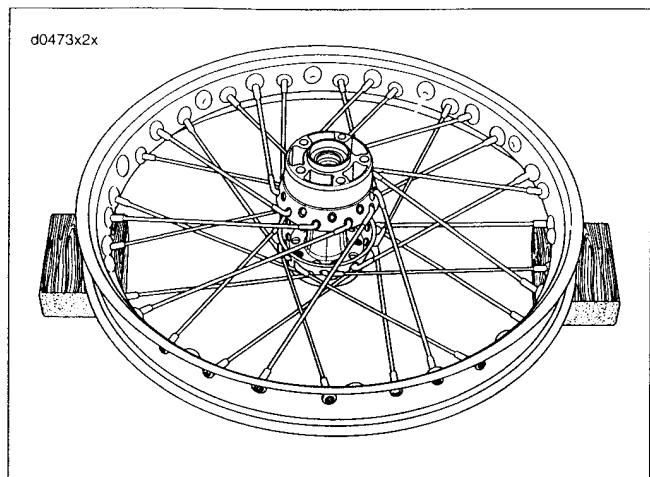

Figure 2-48.
8. See Figure 2-48. Place the remaining nine lower row spokes, angled clockwise, into hub and rim.